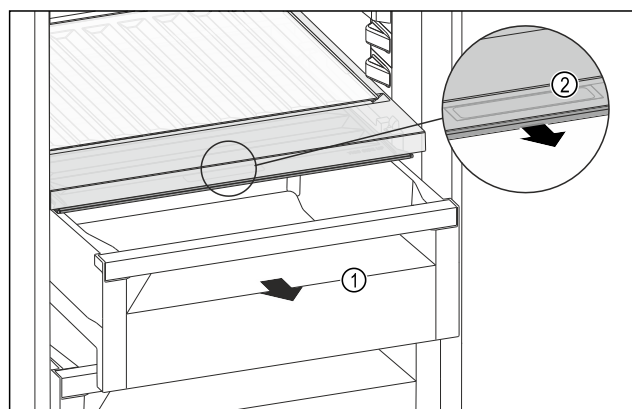

Fig. 163
- Pull out the drawer Fig. 163 (1).
- Grasp the recessed grip Fig. 163 (2) on the compartment lid and pull the compartment lid forwards at the same time.